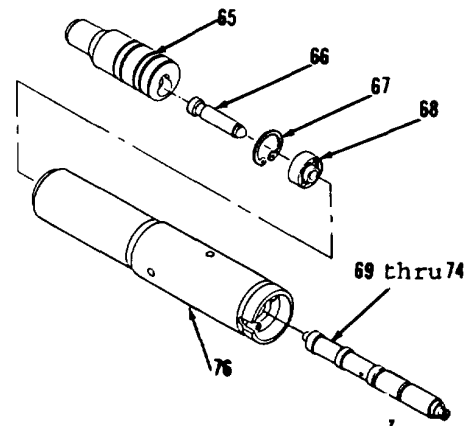
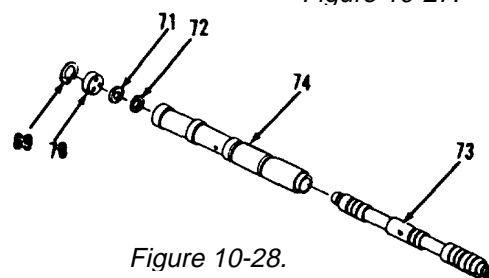

Figure 10-27.
Figure 10-28.
28. Remove items 65 thru 76 and 77 thru 83 as assemblies from head (95).
29. Remove pistons (65 and 66) from cartridge (76, Figure 10-27).
30. Remove ring (67) and insert (68).
31. Remove items 69 thru 74 as an assembly from cartridge (76).
32. Remove ring (69), spacer (70), ring (71) and stop (72, Figure 10-28).
33. Remove spool (73) from sleeve (74).